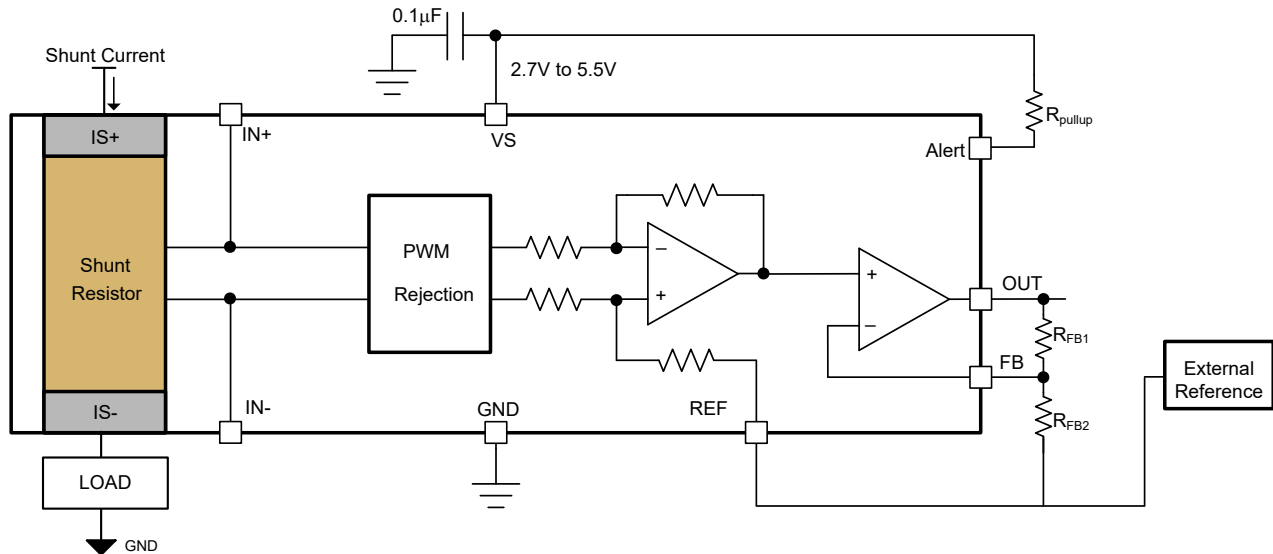

Figure 6-8. Adjustable Gain Setting With External Resistor Divider
The INA750x features adjustable gain with two external resistor network. The default gain is 40mV/A, and with added external adjustable gain resistor network, total gain (G) can range up to 800mV/A. Figure 6-8 shows two external resistors R_{FB1} and R_{FB2} configured for added external gain. Equation 2 can be used for calculating external adjustable gain and Equation 3 shows the total gain of the system with external adjustable gain. The REF pin and one end of resistor R_{FB2} is connected to external reference based on needed voltage at OUT pin as described in Adjusting the Output With the Reference Pin.